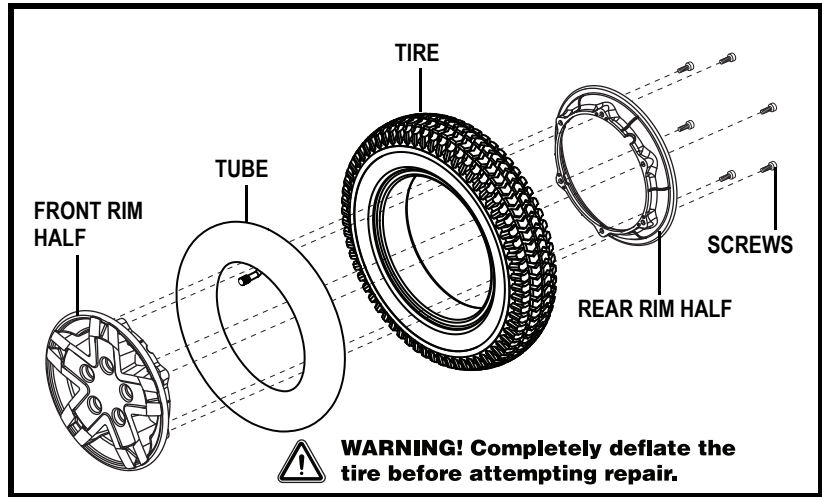

Figure 23. Q6 Edge HD Drive Wheel Disassembled
6. Remove the screws and separate the front and rear rim. See figure 23.
10. Reinstall the five (5) lug nuts onto the wheel hub and tighten.